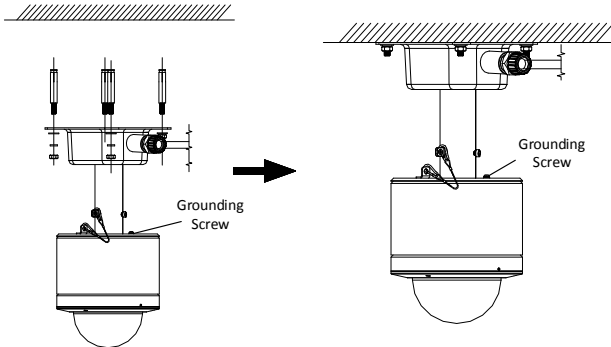

Figure 2-12 Mount the Bracket and Explosion-proof Dome
- Fix the mounting bracket onto the wall by inserting the four expansion screws. Insert the flat washer and the spring washer. Then tighten the four screws to secure the installation plate as shown in Figure 2-12.